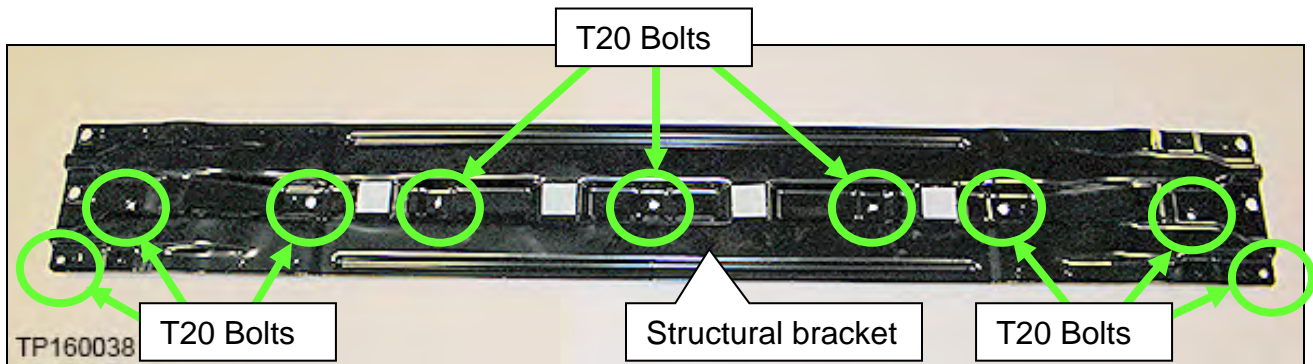

Figure 66
5. Remove the center reinforcement support (Figure 66) held by 9 T20 bolts.